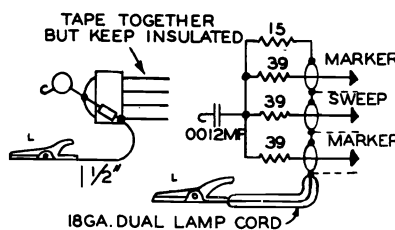

Fig. 4 MIXER GRID MATCHING PAD
3. Connect sweep generator to VHF tuner to test point "G" through the generator matching network of figure 4. Ground low side nearby.